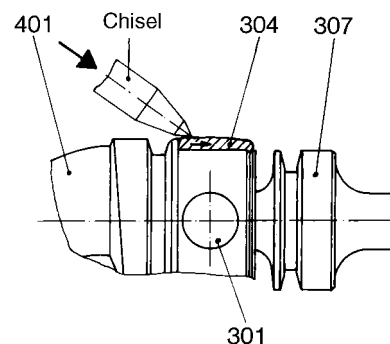

Figure 3: Dismounting the joint collar
- Lift the joint collar (308) with a screwdriver and pull it off axially towards the joint shaft (307).
- Drive the joint collar (304) across the collar of the joint shaft (307). Do not deflect the joint shaft (307) (see figure 3).